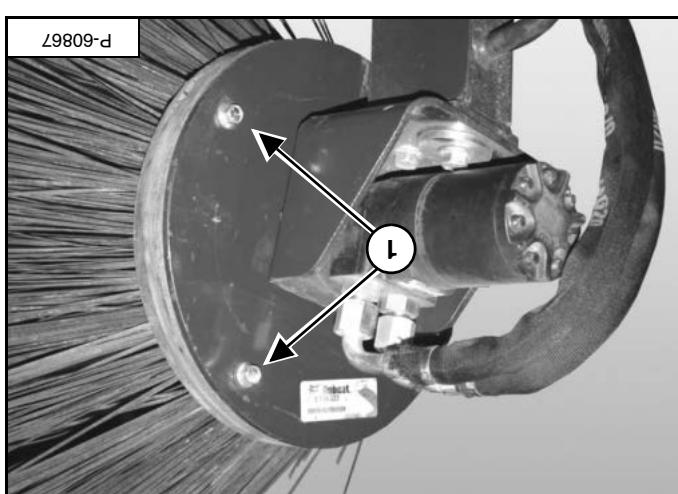

Figure 122
Remove the four bolts (item 1) [Figure 122] and remove the brush assembly.